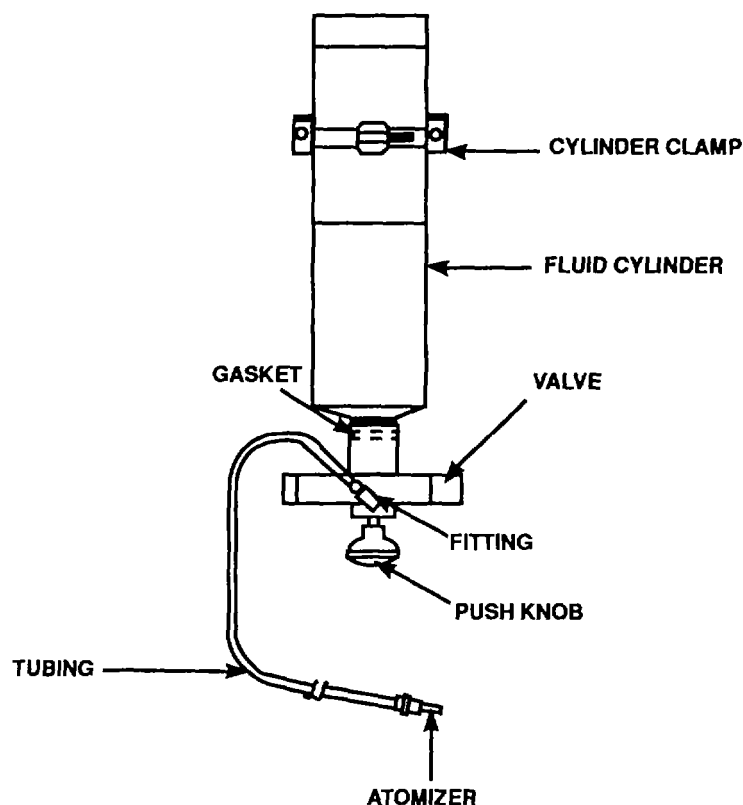

Figure 2-17. Cold Start Aid
- g. While engine is cranking, press ether injection knob (figure 2-17) for two seconds. (The flow will start when the knob is released.)